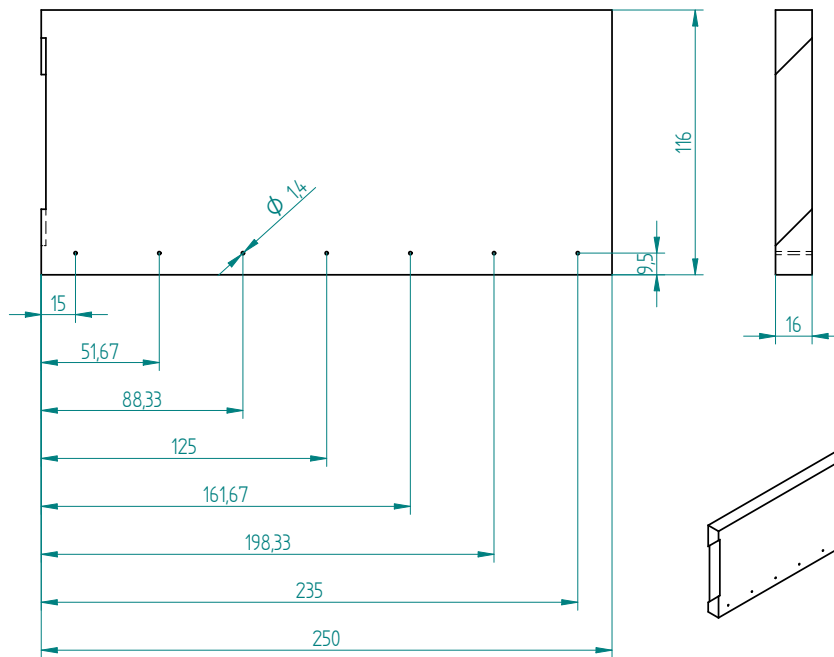

Figure A.7: Shaped part : **face-2** for **perpendicular** tool
2. drill the holes for dimension of the hole and positions see figure A.7, page 127.
Drawing See figure A.7, page 127